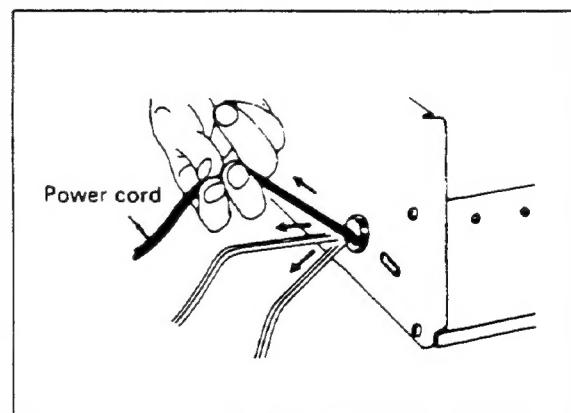

Fig. 2
8. When a power cord has been replaced, check that 10–15 kg of force in any direction will not loosen it. (Fig. 2)